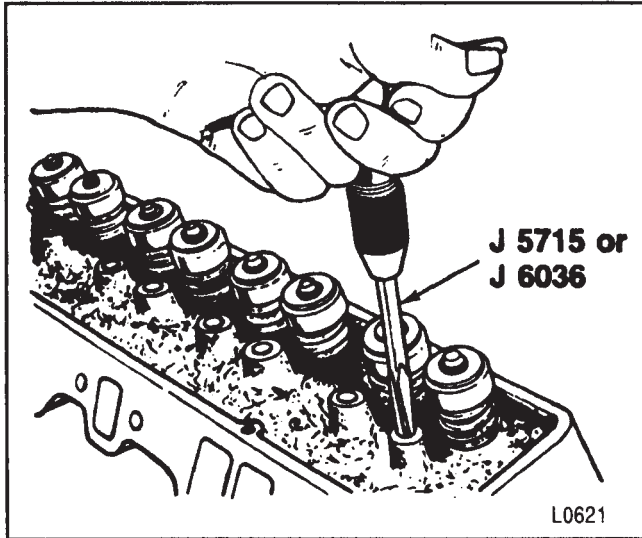

Figure 19—Reaming the Rocker Arm Stud Bore (VIN Z Engine)
**↔** Install or Connect (Figures 19 and 20)
- Ream the hole to the proper size for the replacement oversize rocker arm stud. Use J 5715 for 0.003-inch oversize studs; J 6036 for 0.013-inch oversize stud (figure 19).